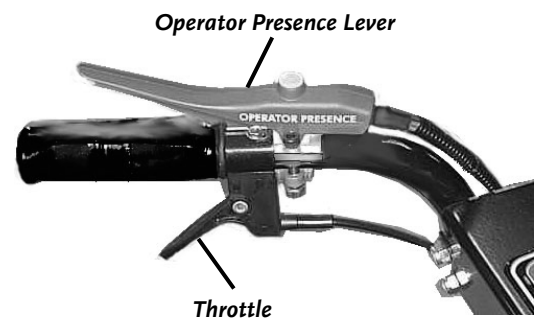
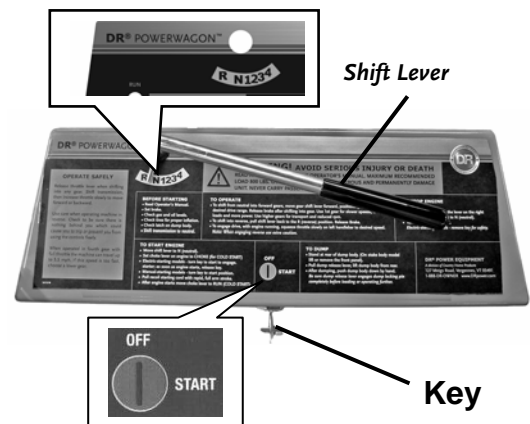

Figure 5
Figure 6
NOTE: The DR POWERWAGON-PRO is equipped with an Operator Presence Control for added safety. The Operator Presence Lever must be depressed whenever the Shift Lever is in gear, or the Engine will stop. You may run the Engine without depressing the Operator Presence Lever (**Figure 5**) only if the Shift Lever is in the "N" (Neutral) position (**Figure 6**).
1. Move the Shift Lever to the "N" (Neutral) position (**Figure 6**).
3. Turn the Key to the START position (**Figure 6**). As soon as the Engine starts, release the Key, and it will return to the RUN position.
1. Move the Shift Lever to the "N" (Neutral) position (**Figure 6** on page 12).
3. Turn the Key to the START position (**Figure 6** on page 12).
5. After the Engine starts, squeeze the Throttle Lever (**Figure 5** on page 12) to the desired speed.
1. With the Operator Presence Lever depressed (**Figure 5** on page 12), move the Shift Lever to the desired gear.
1. Release the Throttle (*Figure 5* on page 12).
3. Shift to "N" (Neutral, *Figure 6* on page 12).